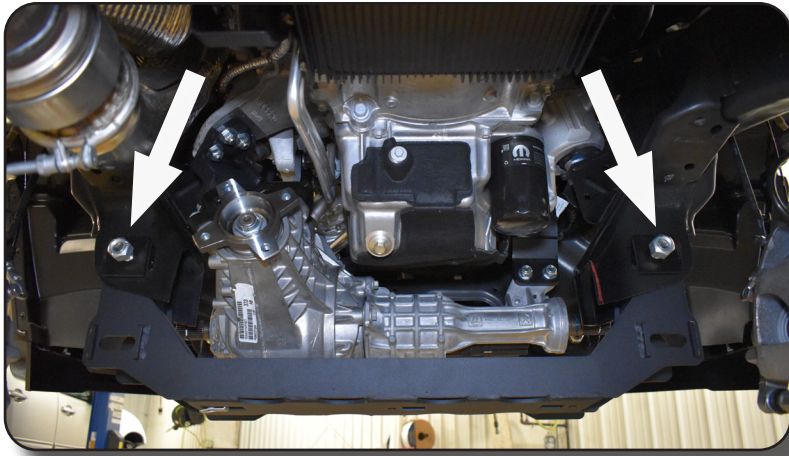

Figure 37
64. Install the new rear crossmember in the OE rear lower control arm pockets and loosely fasten with the provided 18mm x 150mm bolts, nuts in conjunction with the provided cam slot washers. Run the bolts from front to rear and leave loose at this time. Fig. 37